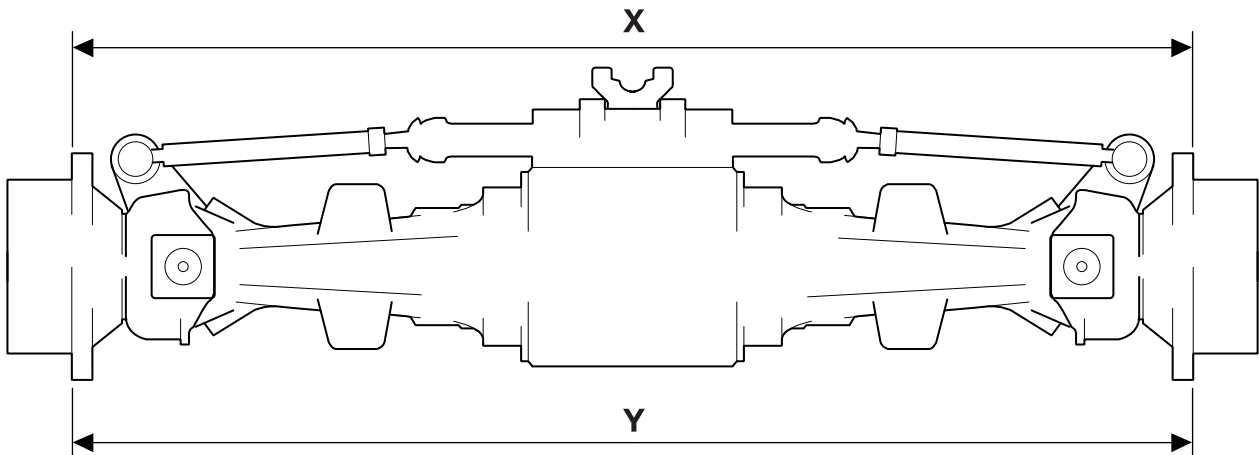

Fig 5.
- 3 If the link arms have been renewed, the wheel alignment must be checked. ⇒ Fig 5. \(□ H6-6\)